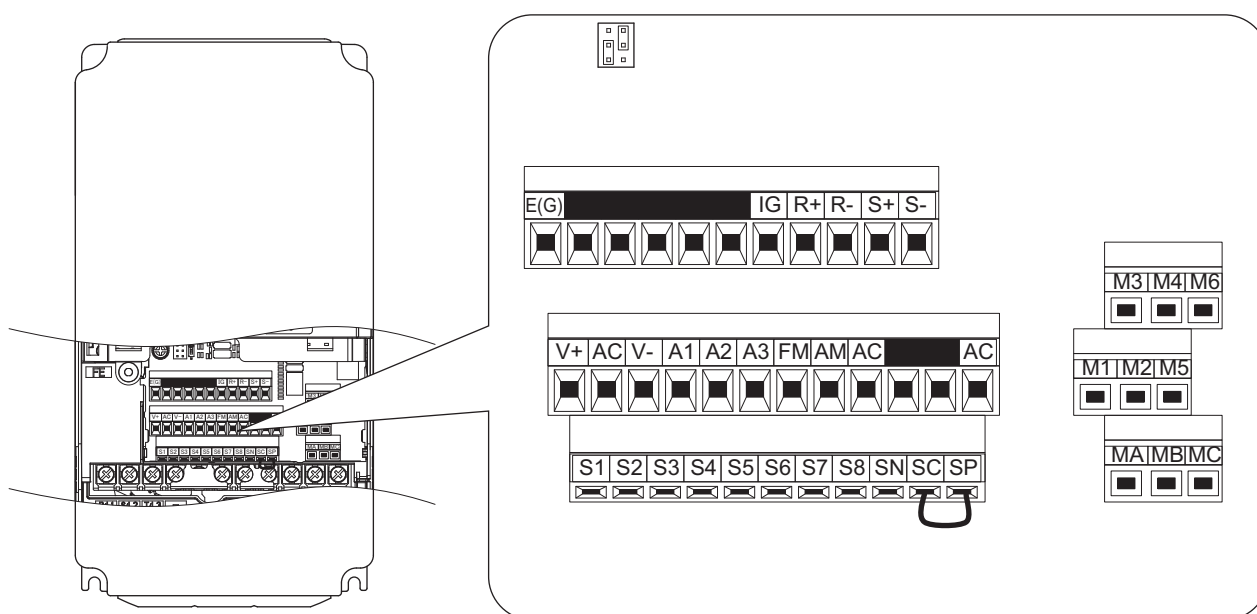

Figure C.9 Terminal Connections for Communication Self-Diagnostics
4. With the power off, wire the converter as shown in Figure C.9, connecting terminals R+ and S+, R- and S-, and S6 and SC.